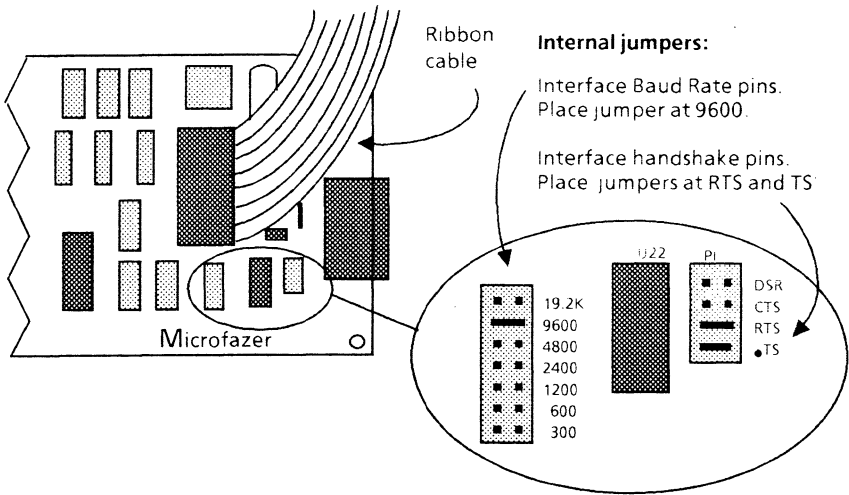

Figure 3-3 Print buffer (internal view)
- Remove the printed circuit board from the casing and position it component-side up. The end with the ribbon cable should be on the right, with the word Microfazer in the lower righthand corner (refer to Figure 3-3).
4. Locate the Interface Baud Rate pins on the circuit board (refer to Figure 3-3).
6. Locate the Request To Send (RTS) and Data Terminal Ready (TS) interface handshake signal pins on the circuit board (refer to Figure 3-3).